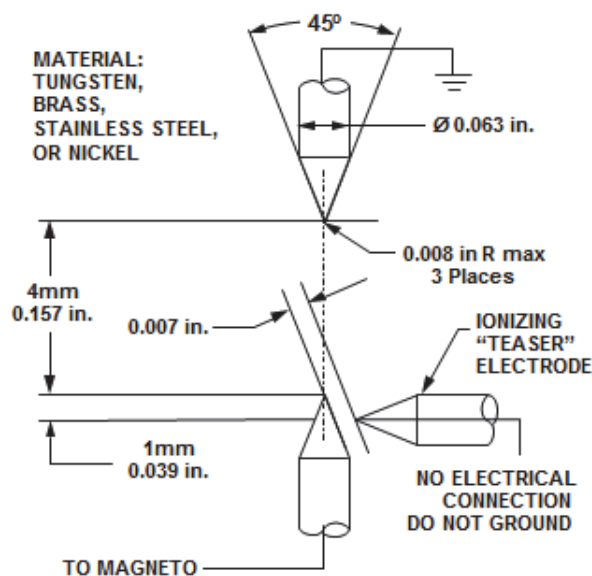

Figure 3-1. Spark Gap Setting
1. Mount the magneto on a suitable test stand. Connect the high voltage outlet to spark gaps on the test stand using a standard harness assembly. Set spark gaps at 4 mm (0.157 in) as shown in Figure 3-1.